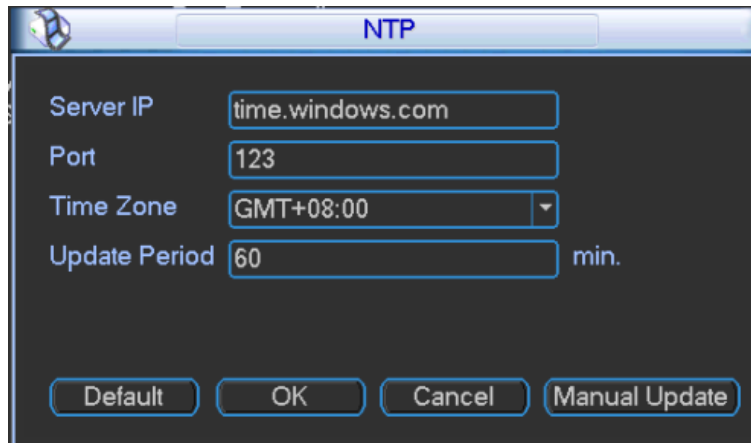

Figure 3-40
Step 1 In main menu, select "Setup> Network> Network Setup > NTP", and the system displays "NTP" interface, as shown in Figure 3-40.